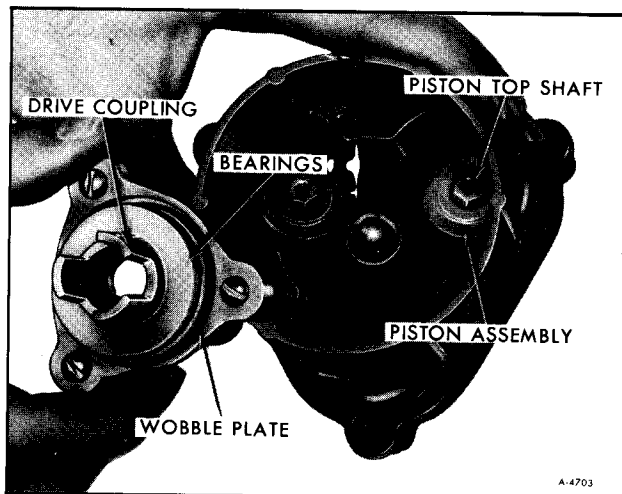
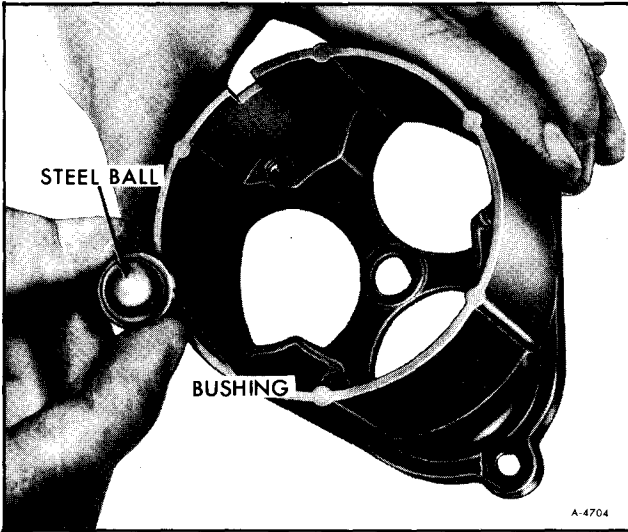
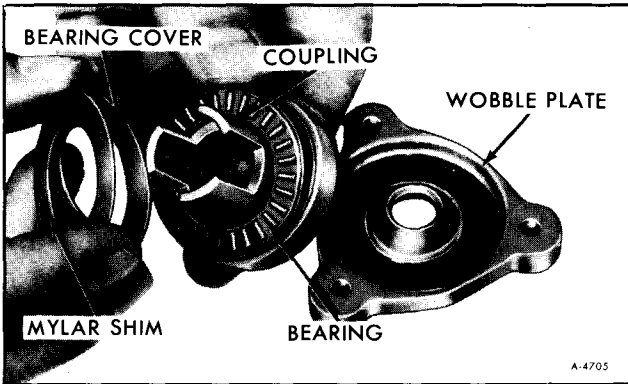

Figure 32—Removing Wobble Plate with Bearings and Drive Coupling
Figure 33—Removing Steel Ball and Bushing
Figure 34—Removing Coupling and Bearings from Wobble Plate
7. Remove three screws that secure the wobble plate to the piston assembly. Remove wobble plate (figure 32), steel ball, and bushing (figure 33). The drive coupling and bearings rest on the wobble plate and will be removed with the plate. Lift the coupling off the plate and lift the bearings off the coupling (figure 34).
2. Lubricate steel ball and place on bushing. Place bushing with ball into lower housing. Flat on bushing shaft matches flat in housing hole (figure 33).
3. Grease bearings with GM 1051344 or equivalent. Assemble to drive coupling with mylar shim and bearing covers. Place assembled parts on wobble plate (figure 34).
4. Place wobble plate in position in lower housing and secure with three screws to threaded holes in the end of piston top shafts (figure 32).